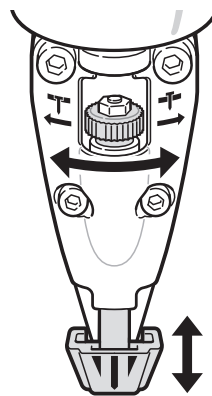

Figure 3
Adjust the depth of stapling by turning the adjustment knob (Figure 3, Item 1) to the left (A) for the deepest setting and to the right (B) for the shallowest setting. To increase the depth of the staples, when the adjustment knob is already set to its highest setting, increase the air pressure. To decrease the depth of staples when the adjustment knob is already set to its lowest setting, decrease the air pressure. Should staples be driven too deep even when the adjustment knob is set at its lowest setting, decrease the air pressure. In general, the air stapler will have a longer service life when the adjustment knob is set at a lower setting causing less wear and tear on the driving mechanism.